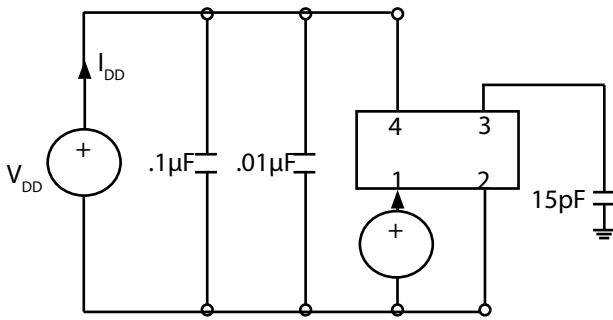

Fig 1: Test Circuit
- 2] Parameters are tested with production test circuit below, Figure 1.